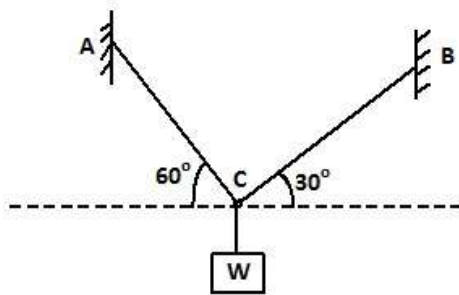

Figure 1
Q.1(b) A weight $W = 100\text{ N}$ is suspended at point C with the help of two strings AC and BC as shown in Figure 1. Determine the forces acting through the strings AC and BC when the weight W is in equilibrium. [5]